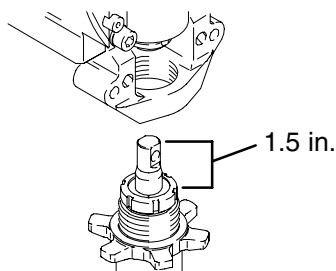

Fig. 14 7676B
1. Fig. 14. Pull piston rod out 1.5 in. Screw in pump until holes in bearing cross link and piston rod align.